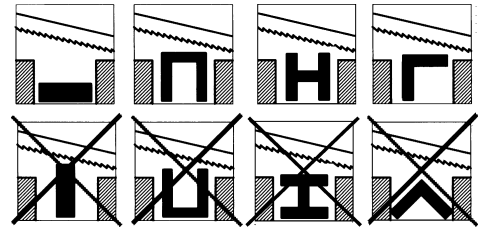

Fig. 11
4.5 CORRECT POSITIONING OF THE PIECE IN THE CLAMP (Fig. 11)